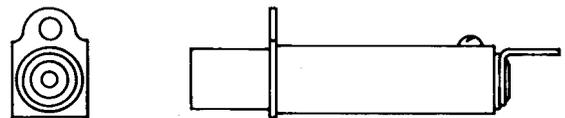

Fig. 19—488A Jack
2.14 488A: This single-mounted jack (Fig. 19) has coaxially arranged inner and outer contacts which are mounted in a tubular metal frame. One end of the 488A jack is designed for soldered wire connections to the inner and outer contact terminals. This jack is not designed for a coaxial cable connection. The test voltage is 2000 volts ac. The 488A jack is used in the IF switching and distributing amplifiers of the TD-2 Radio Relay Station.